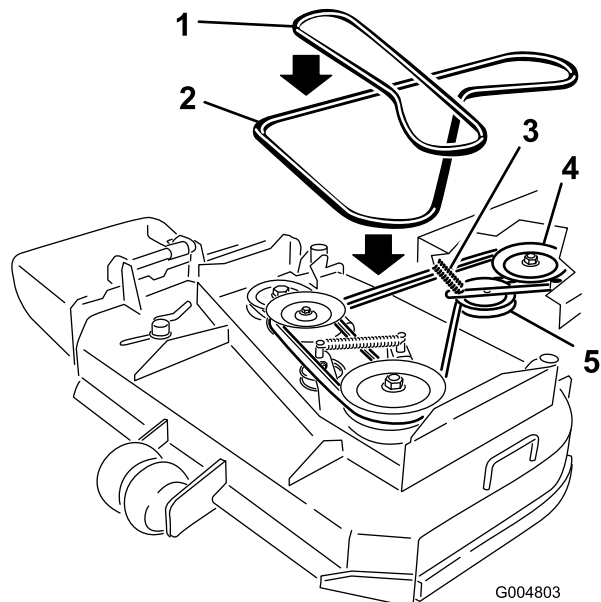

Figure 38
6. Roll the belt off of the center pulley on the mower deck (Figure 38).
7. Remove the belt from the engine pulley and the spring loaded idler pulley (Figure 38).
8. Install the new belt onto the engine pulley and spring loaded idler pulley (Figure 38).
9. Roll the belt onto the center pulley on the mower deck (Figure 38).